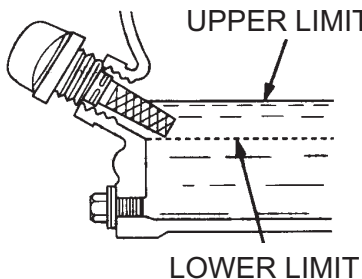

Figure 6. Engine Oil Dipstick
4. If the oil level is low (Figure 6), fill to the edge of the oil filler hole with the recommended oil type (Table 4).